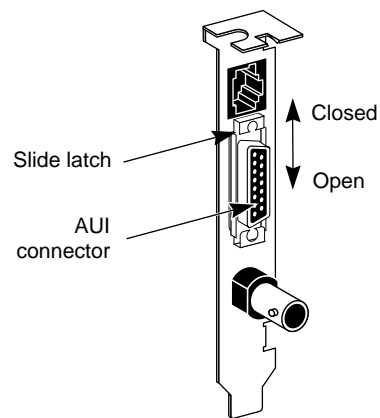

Figure 2-4 Slide Latch
- 1 Locate the adapter's AUI connector and move the slide latch to the open position, as shown in Figure 2-4.